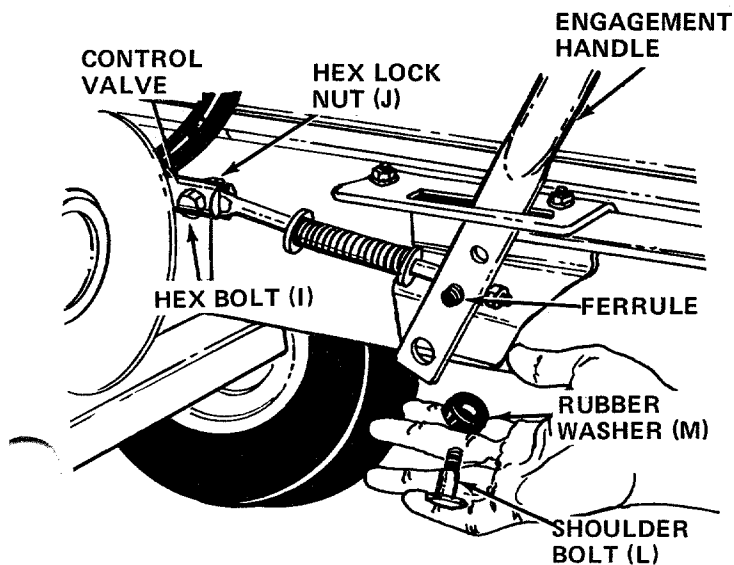

FIGURE 8
1. Attach the engagement rod assembly to the control valve with hex bolt (I) and hex lock nut (J) as shown in figure 8.
2. Place the flattened end of the engagement handle down through the slotted bracket beside the beam. Insert the end of the ferrule on the engagement rod into the second hole from the end of the engagement handle. See figure 8.
3. Place shoulder bolt (L) through bottom hole in engagement handle. Place rubber washer (M) on shoulder bolt. Secure to bracket with lock washer (G) and hex nut (N).